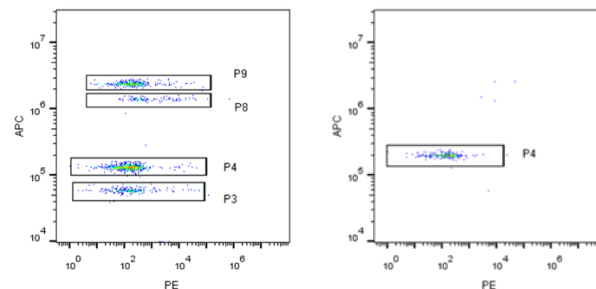

Figure 2
- Apply proper PE/PE-Cy7 and PE/PE-Cy5 color compensation so that the bead populations are in a horizontal position (Figure 2).